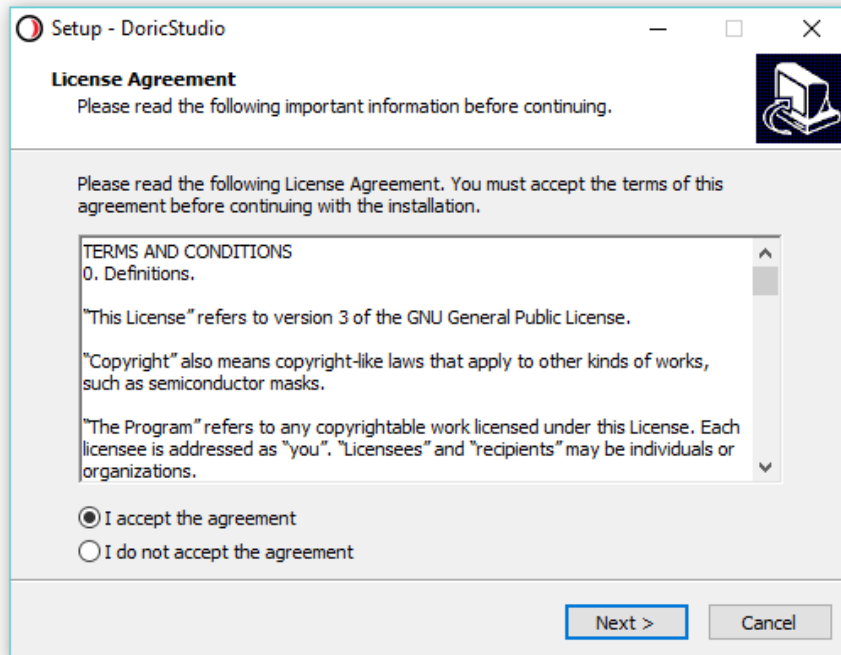

Figure 3.1: Doric Neuroscience Studio License Agreement
3. In the license agreement window (fig. 3.1), you need to accept the agreement and **click Next** to continue the process.